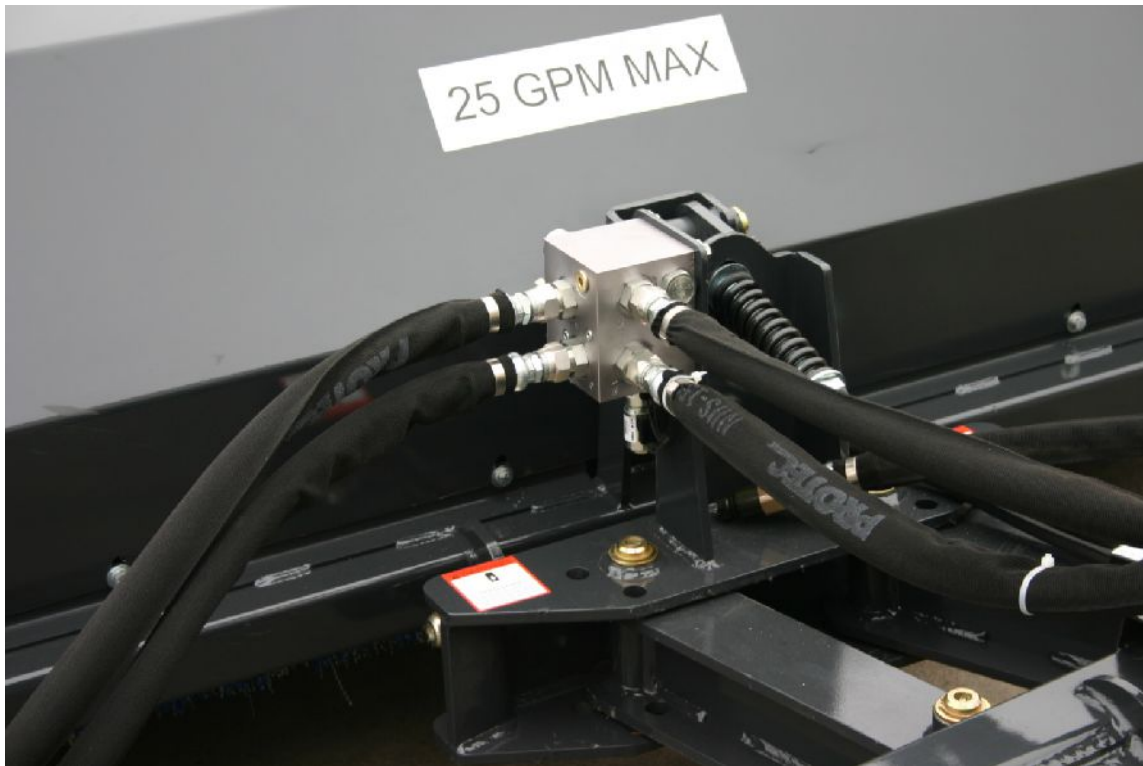

Figure 1: Hydraulic Manifold Mounting
- Install the Hydraulic Manifold (Part # 8518PP) to the mounting bracket on the Angle Broom using the 3/8" hardware provided (Part #'s 1075PP, 1083PP and 7849PP). See Figure 1.